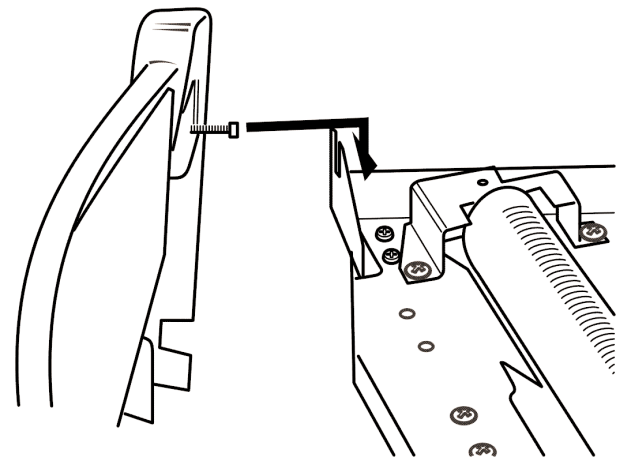

Figure 24. Firefront casting location
2. Locate the two screw heads through the keyhole slots in the brackets located on top of the burner. If the screw heads do not project enough or project too far, the screws can be adjusted. Lower the casting so that it rests on the hearth. See figure 24.